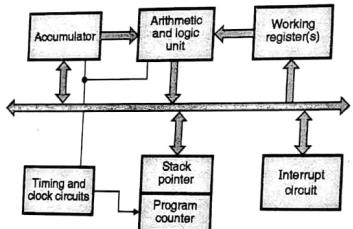

Fig. 2.1.1 : General architecture of a microprocessor
- Fig. 2.1.1 shows general architecture of a microprocessor.